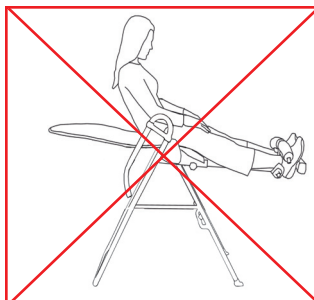

Figure 10
- To return to the upright position, put your arms at your sides (Figure 10). Since your body may have lengthened or shifted on the Table Bed during inversion, you may need to bend your knees to shift your body weight to the foot side of the pivot point. **DO NOT** lift your head or try to sit up.
- If the locking pin does not automatically engage in a hole (Figure 10), push the front ankle clamps inward until the pin engages fully in the next tightest hole setting. Verify that no part of the footwear or garments can touch or interfere with the locking pin in any way during inversion.